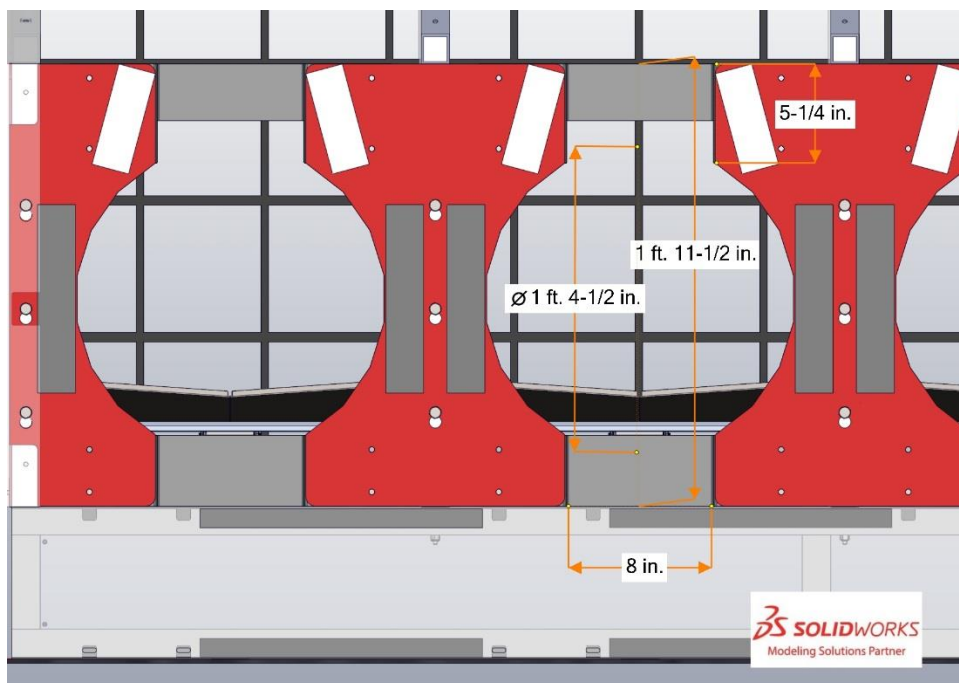

Figure 4-17 CARGO SHIP HATCH geometry and dimensions.
Each BAY has a CARGO SHIP HATCH for one (1) HATCH PANEL. CARGO SHIP HATCH geometry is similar, but not identical, to ROCKET HATCH geometry and is detailed below in Figure 4-17.